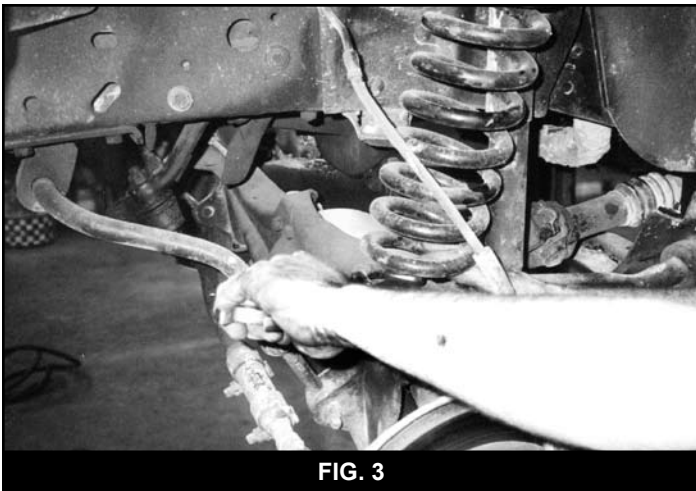

FIG. 3
7. Remove stock coil springs by removing the bottom retaining nut and washer. Once the bottom nut is removed, remove the coil by turning the coil out of the top spring tower. (Fig. 3)